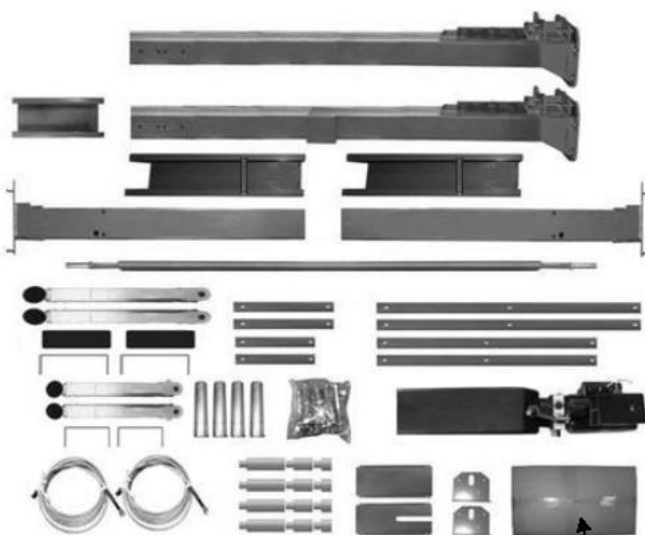

Fig. 8
4. Move aside the parts and check the parts according to the shipment parts list (See Fig.8, 9).